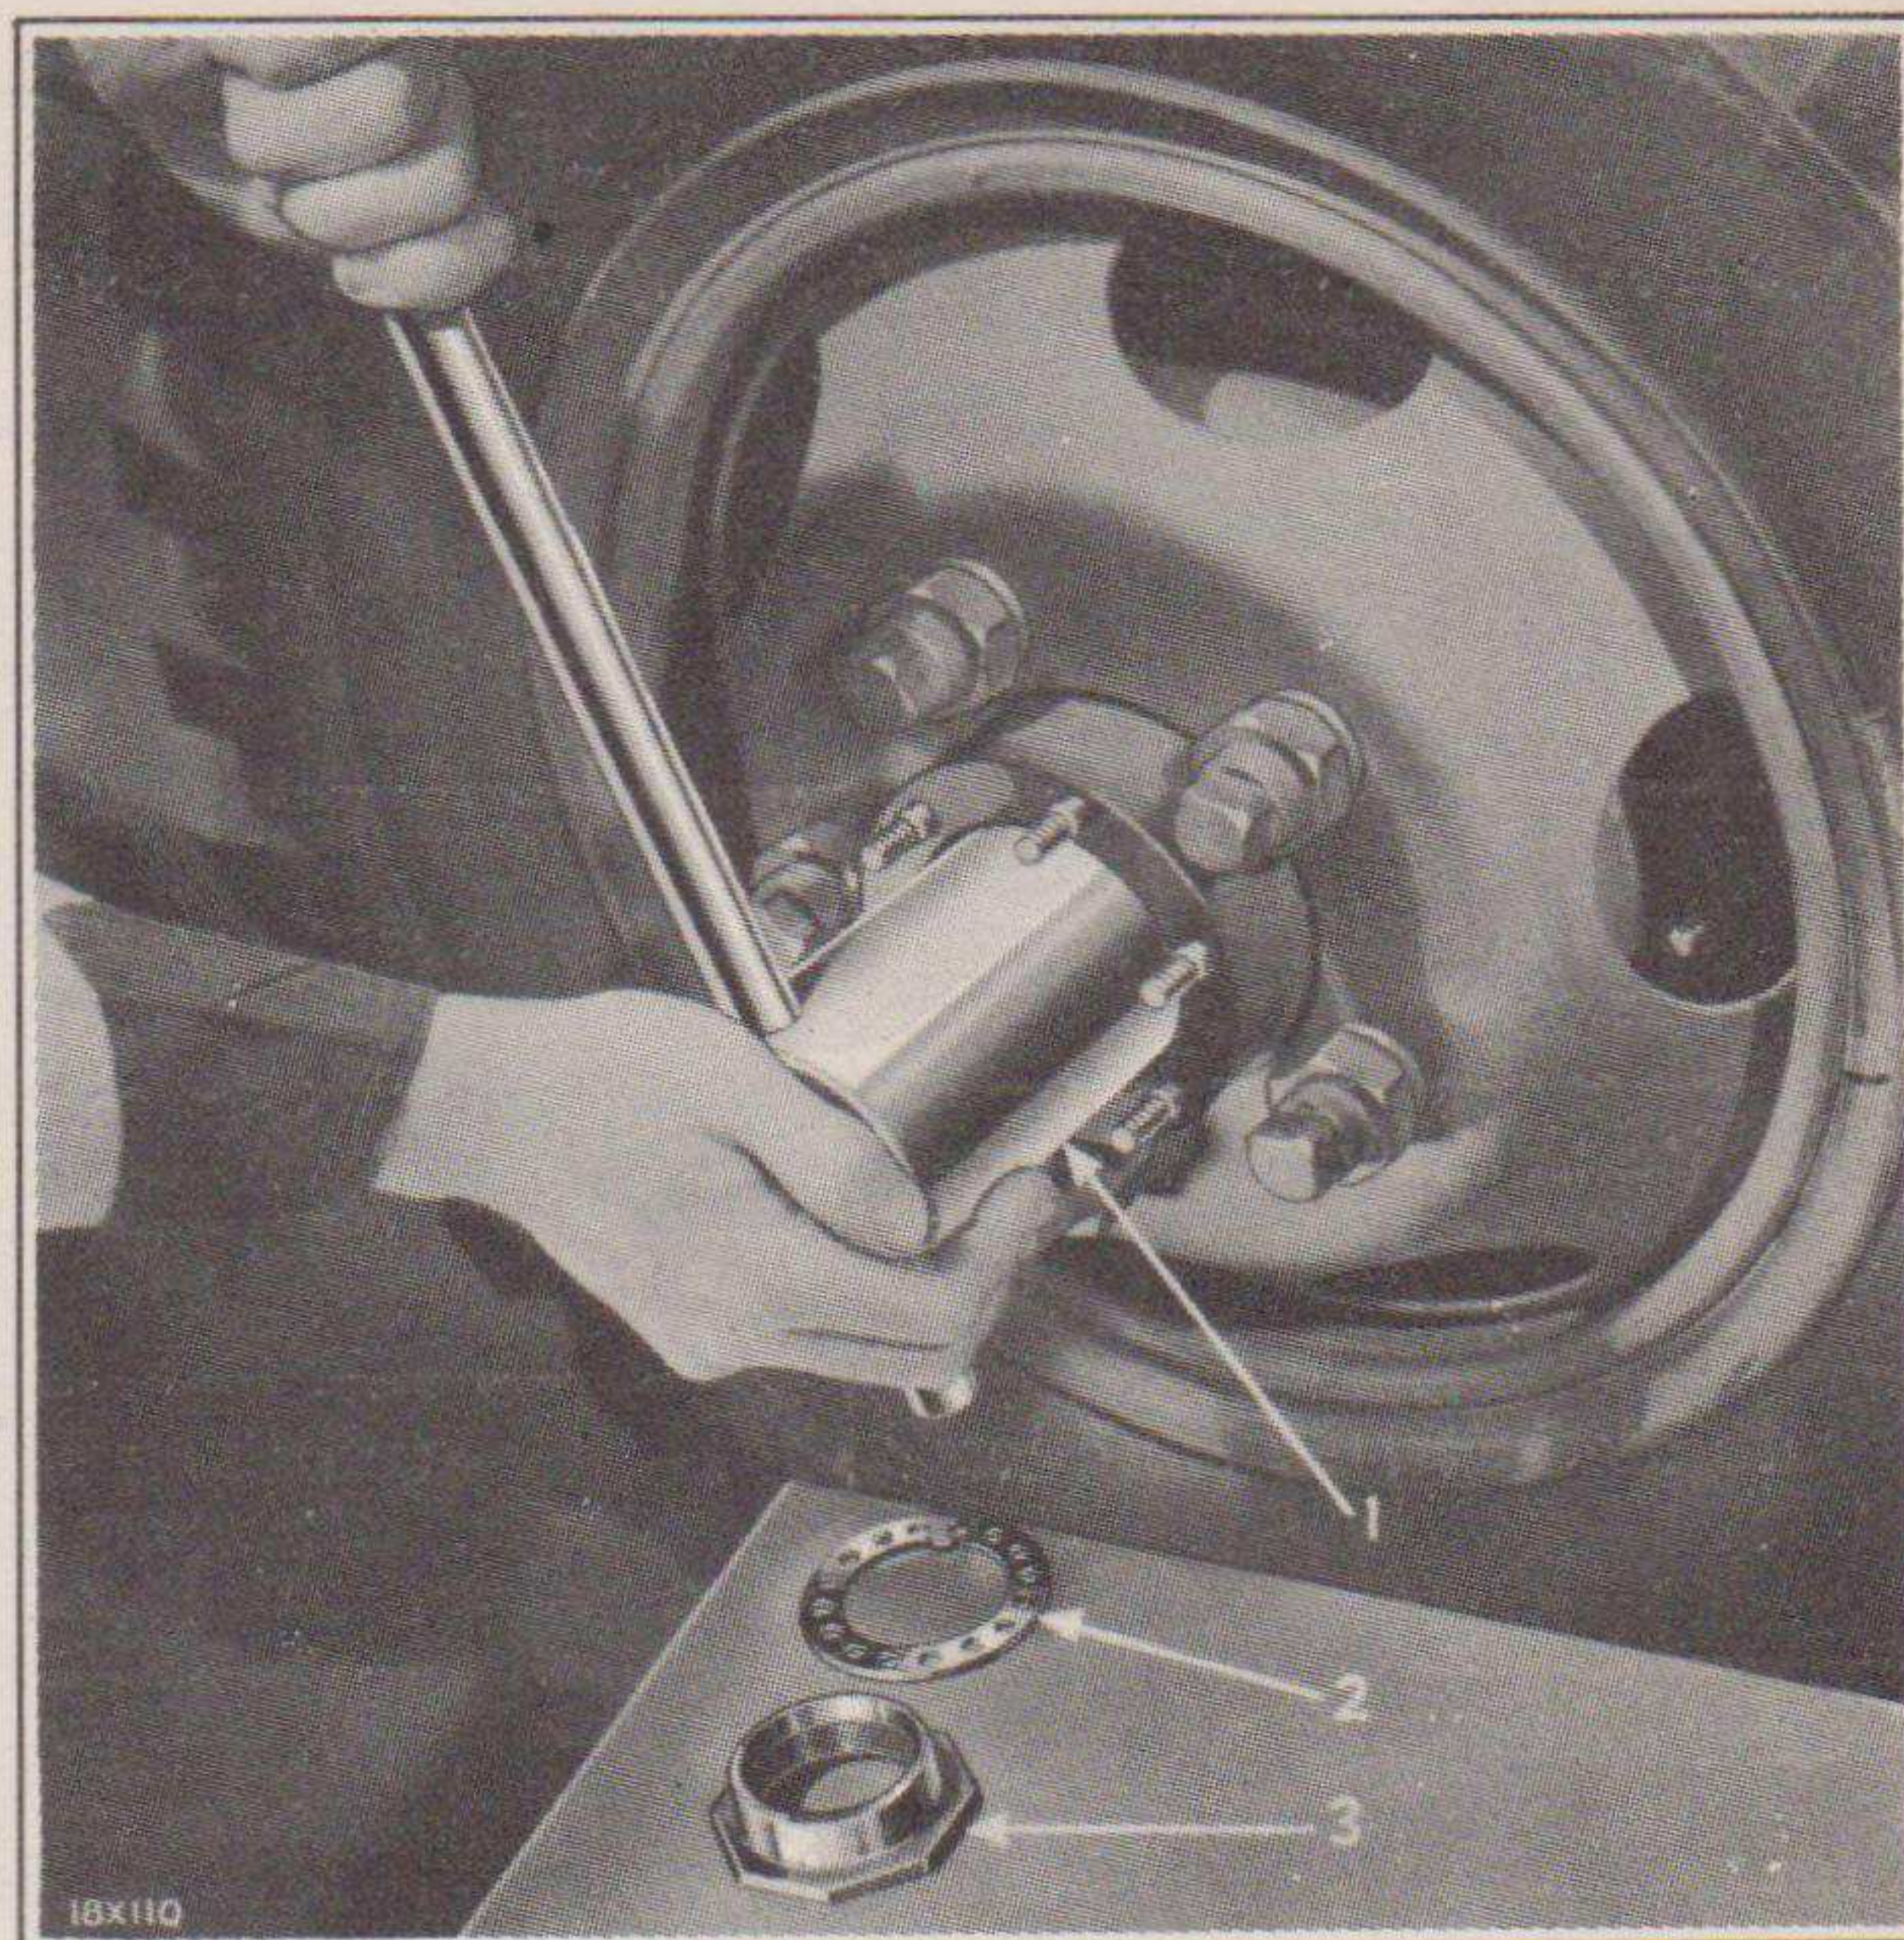

Fig. 48—Removing Rear Wheel Bearing Adjusting Nuts or Adjusting Bearings
- (d) Remove the outer adjusting nut, the nut lock and the inner adjusting nut as illustrated in Fig. 48, using special wrench DD-824.
- (b) Turn the inner adjusting nut clockwise with special tool DD-824 (See Fig. 48) until the bearings are tight, so that the wheel can not be shaken by hand but can be rotated without binding. This is sometimes difficult to detect, when adjusting rear wheel bearings because of the weight of the wheel, especially when dual wheel equipment is used. The recommended method is to turn the inner adjusting nut tight and back it off about  $\frac{1}{6}$  of a turn.